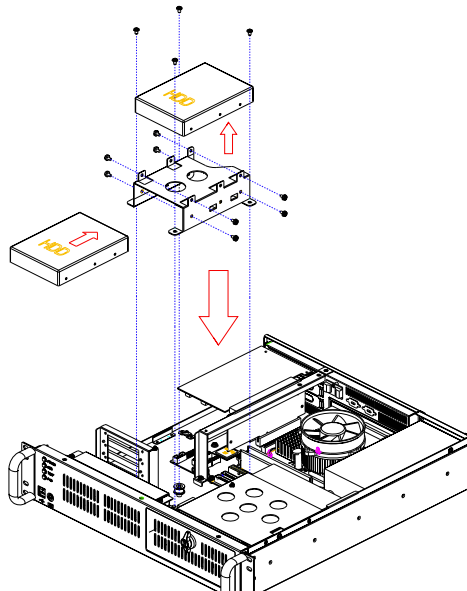

Figure 2.7: Installing the internal HDD
2. Insert the disk drive into the proper location in the bracket and secure them with the screws provided. (*see Figure 2.7*)